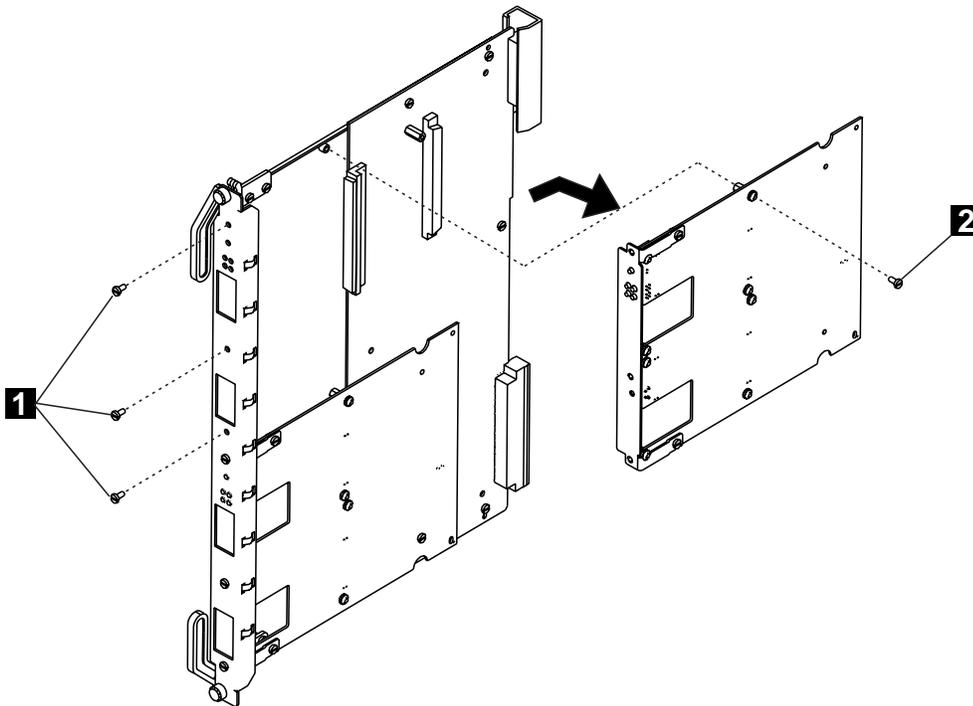

Figure 17. Removing the Motherboard
- 1 Detach the motherboard on which you want to install the I/O card by removing the four screws (1 and 2 in Figure 17) that hold the motherboard to the module. Retain the screws for reattaching the motherboard.